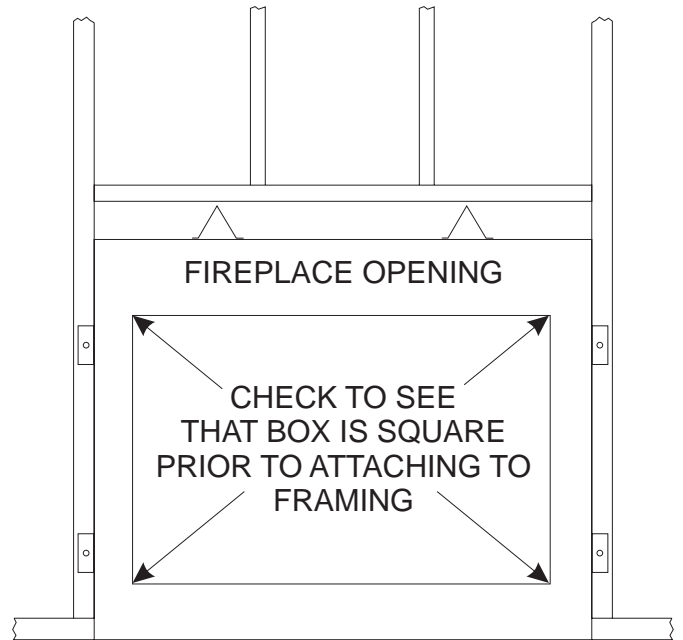

Figure 12
**IMPORTANT!** Check squareness of the fireplace prior to securing to framed opening. **See Figure 12.**